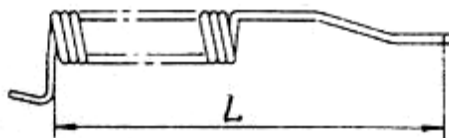

Fig 5-14
(6) Measure the free length and installation load of return spring for brake shoe (Fig 5-14).